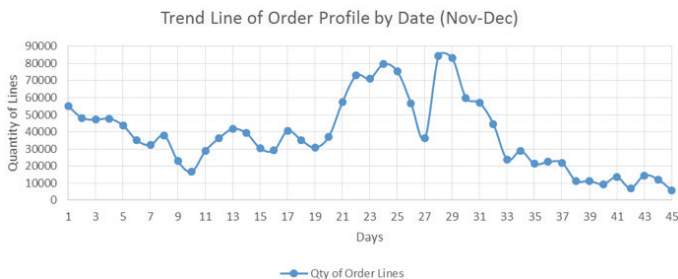

Figure 1: An analysis of order activity by day helps identify the frequency and severity of peaks that must be accounted for, but not necessarily designed to.
- Find which days and activities generate the most activity (Figure 1)